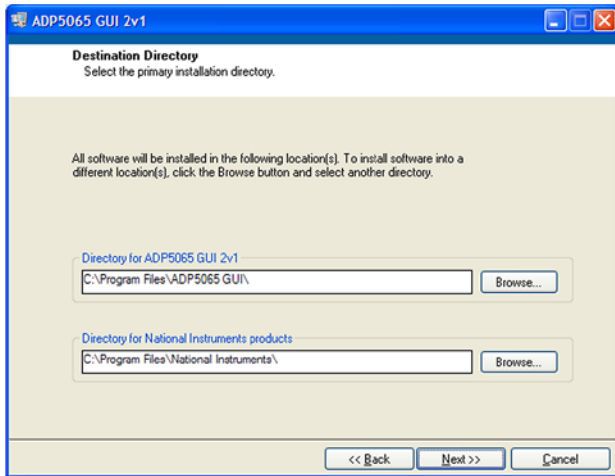

Figure 2. ADP5065 Evaluation Software Setup
2. When the dialog box shown in Figure 2 appears, click **Next>>** to install the files to the default destination folder or click **Browse...** to choose a different location.